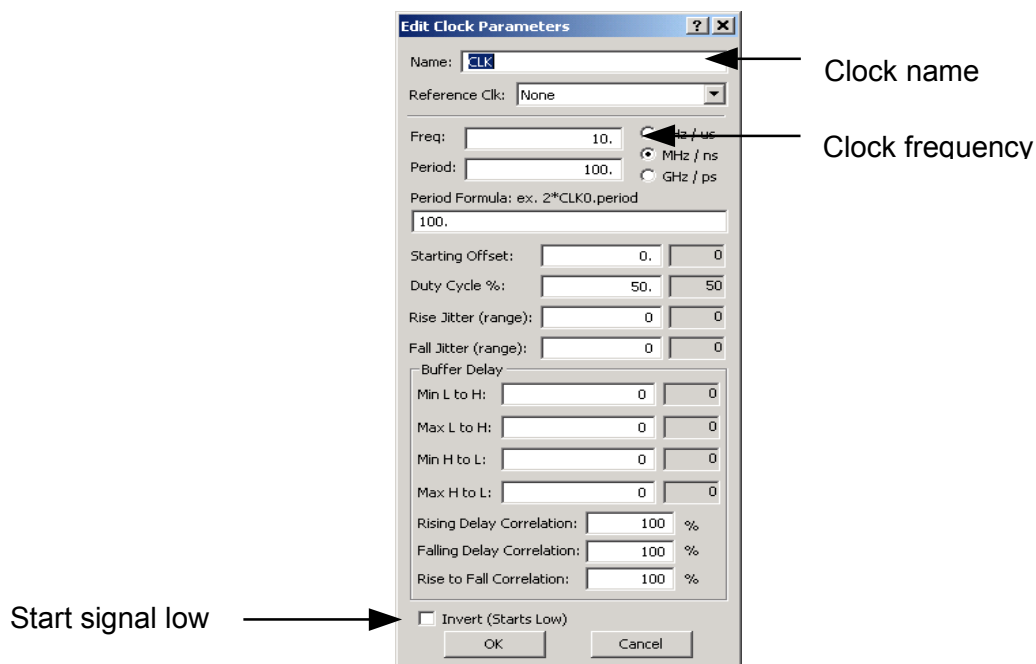

Figure A2 - Edit Clock Parameters window
1. Create a clock by right clicking CLK and then selecting *Signal(s) <-> Clock(s)* to convert CLK from signal to clock (ie. periodic) format. (Figure A2).